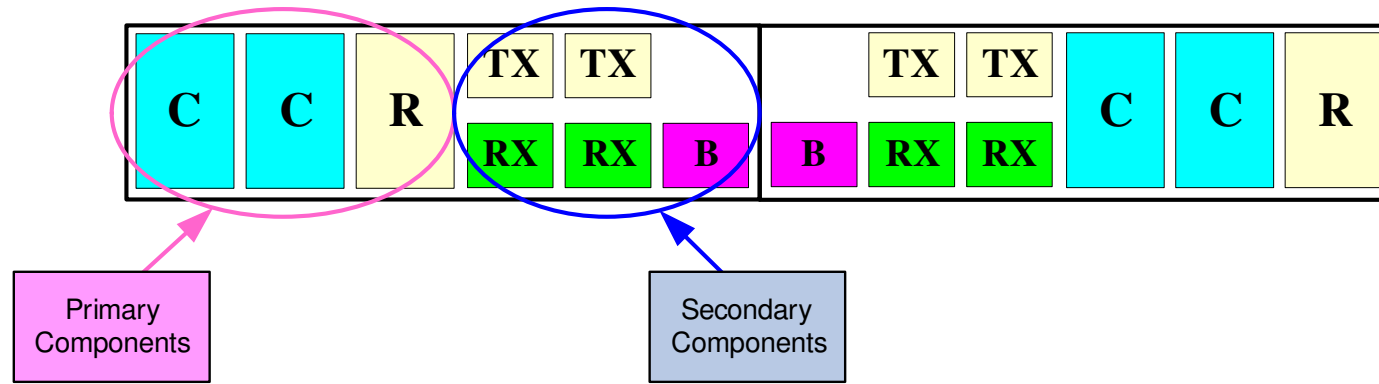

Figure 2: RTAX-S SuperCluster Block Diagram
## ■ Secondary building components shown in Figure 2 are:
- Outputs of the primary components then drive inputs of the secondary components mentioned in Figure 2.